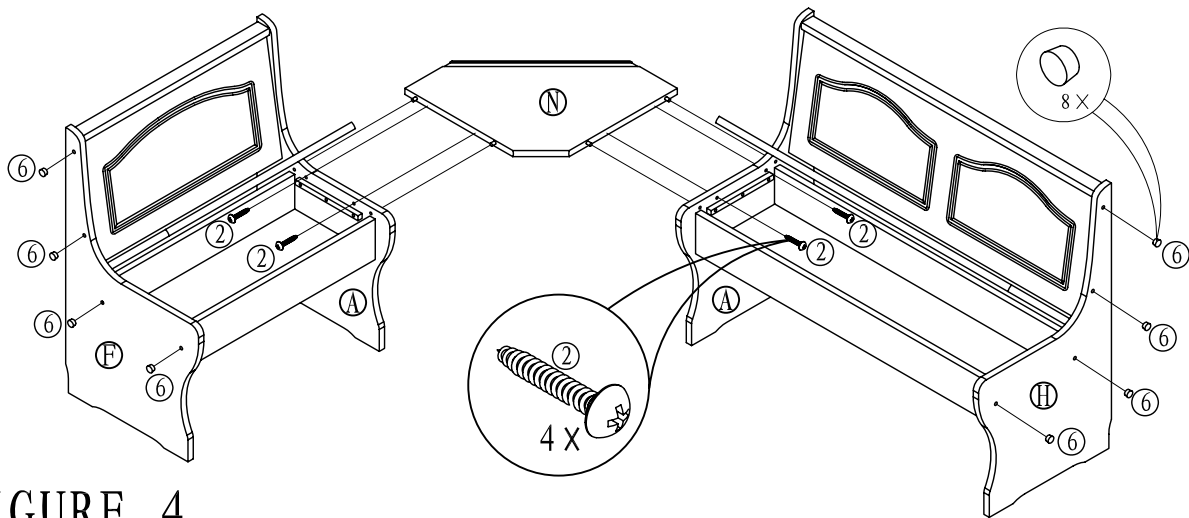

FIGURE 4
- 1) ATTACH CORNER SHELF #N TO MIDDLE LEGS #A(RIGHT AND LEFT), INSERTING WOODEN DOWELS LOCATED ON CORNER SHELF EDGE INTO HOLES LOCATED ON SIDE OF MIDDLE LEGS. SECURE WITH (04) SCREWS ② USING ① PHILLIPS HEAD SCREWDRIVER (NOT PROVIDED). AS SHOWN IN FIGURE 4.
- 2) INSERT (08) WOOD HOLE COVERS ⑥ INTO HOLES LOCATED ON LEFT AND RIGHT OUTSIDE LEGS #F AND #H. AS SHOWN IN FIGURE 4.